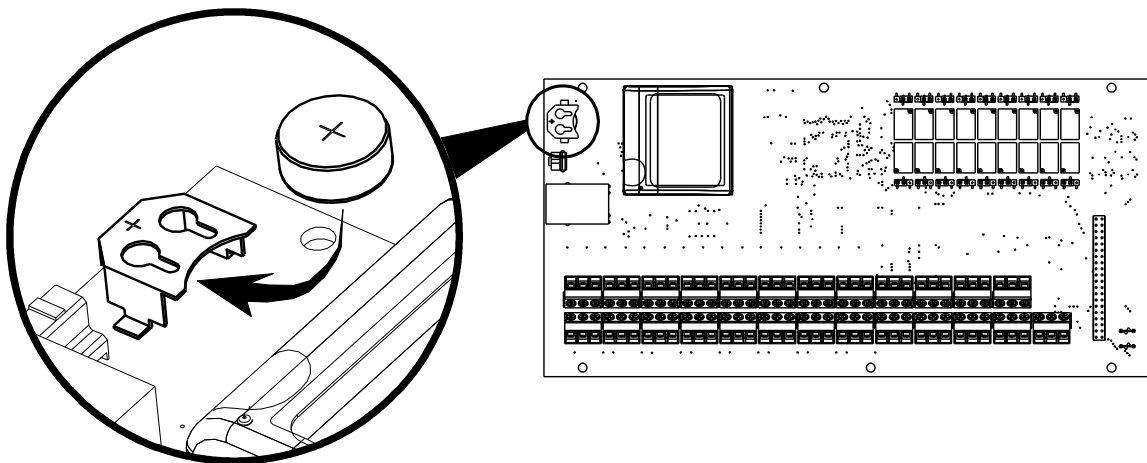

Figure 9
3. Ensure that a button cell battery is installed the 1.5V in the battery holder in the upper left corner of the main control board (see figure 9 and REAL TIME CLOCK section on page 16).